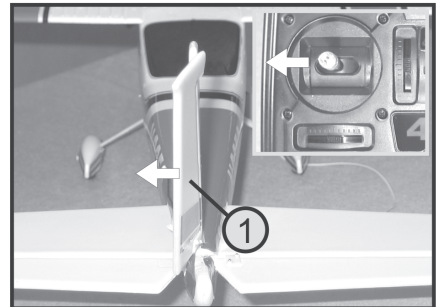

Figure 17b
- If you push the rudder control stick on the transmitter to the left, the rudder (1) has to deflect to the left by approx. 1.5 cm (see figure 17b).